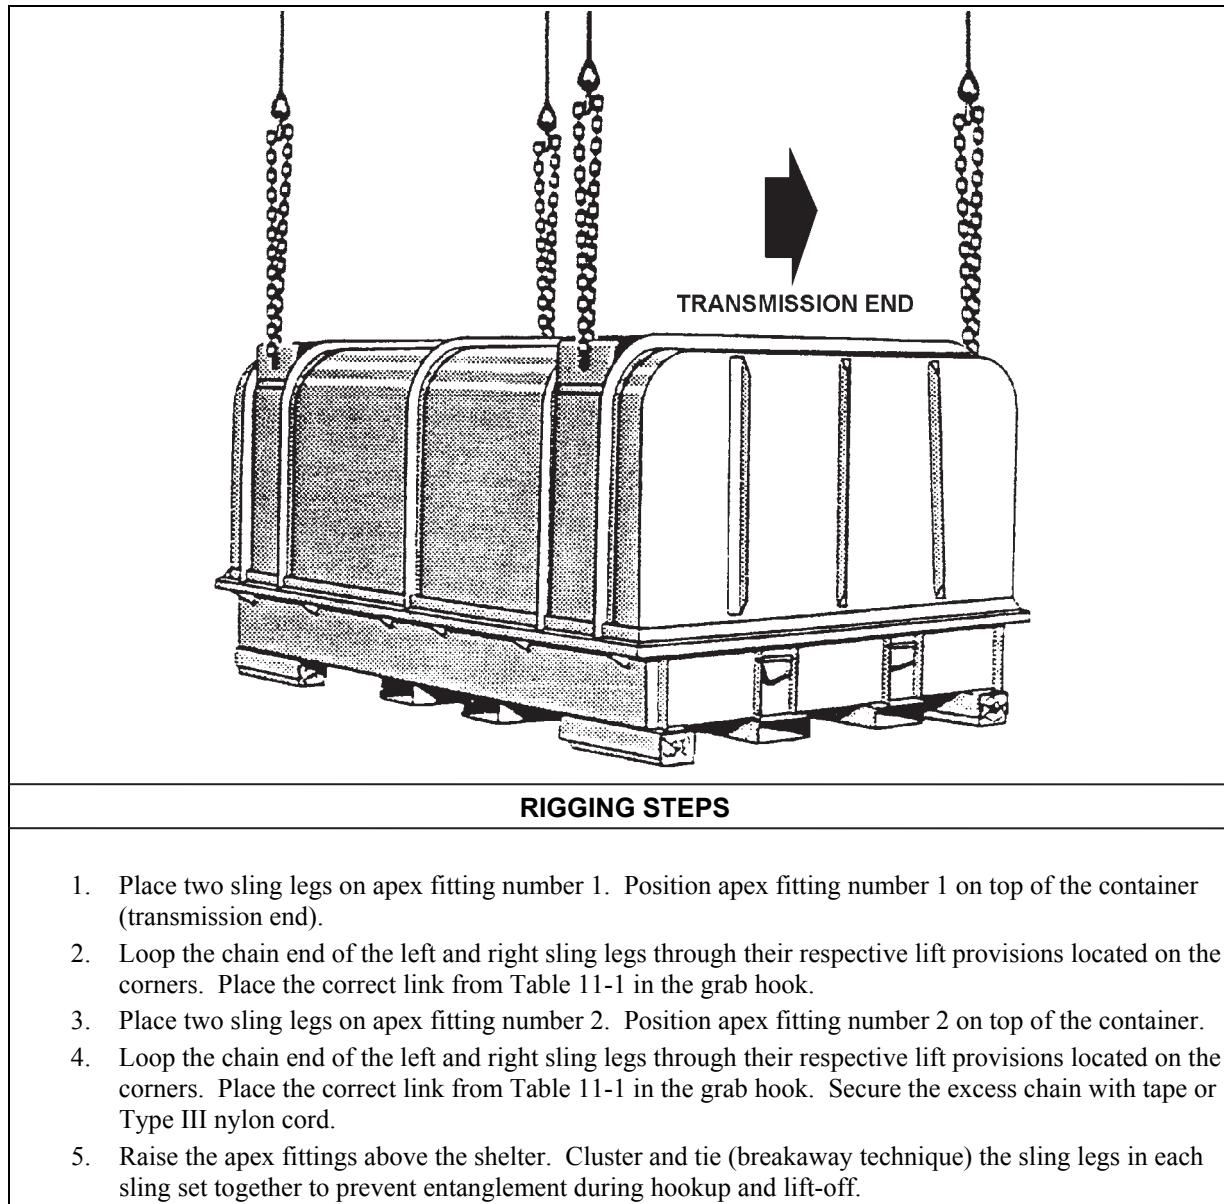

Figure 11-1. Full-Up Power Pack Container, M1A1
- **Rigging.** Rig the load according to the steps in Figure 11-1.